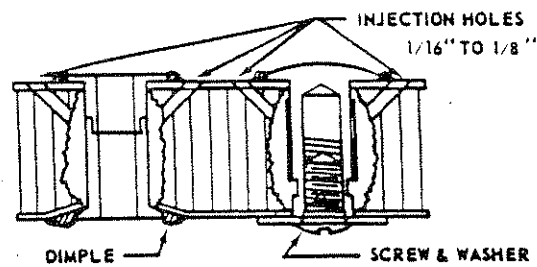

FIG. 3
- 5.4 On blind oval-head inserts, a washer and screw coated with parting agent may be used to hold insert firmly in panel and protect the insert threads during cure of the adhesive. See Figures 3 and 5.
- 5.5 Drill 1/16 to 1/8 inch injection hole in the panel skin 1/16 to 1/8 inch outboard of insert head or face. Angle the injection hole down to the center of insert. Drill another hole on opposite side in the same manner. Injection holes may be drilled through either face for ease of operation. See Figures 3, 4, and 5.